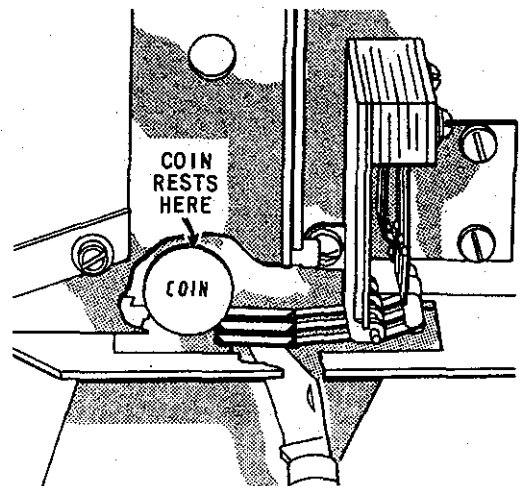

FIGURE 12. COIN POSITION
DO NOT ATTEMPT ANY BENDING ADJUSTMENT IF THE SWITCH MEETS CONDITIONS OUTLINED ON FIGURES 12, 13 AND 14.
1. Insert a dime at top of the slug rejector while supporting the switch actuating lever with a knife blade. The coin rests on the lever as shown in Figure 12.
5. Bend short blade at this point so it moves approximately $1/64"$ when coin is slowly released as in Figures 12 and 13.